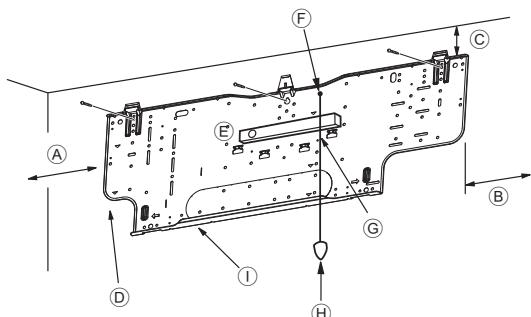
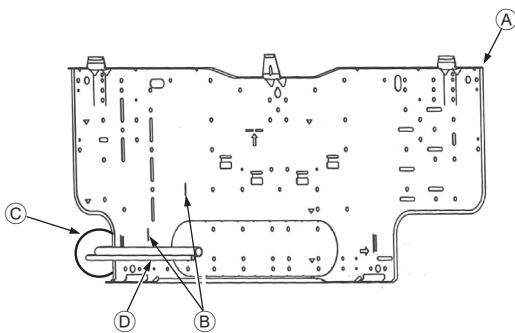

Fig. 3-4
Fig. 3-5
■ PKA-RP-HAL (Fig. 3-4)
- Ⓘ Mount board ①
3.3. When embedding pipes into the wall (Fig. 3-5)
- Ⓐ Mount board ①